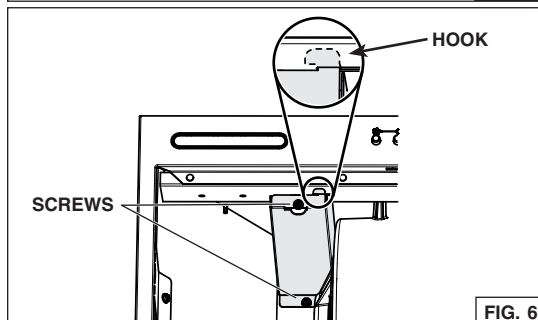

FIG. 6
3. Disassemble the electrical cover (grey part in Fig. 6) from inside the power module by removing both its retaining screws. Slide the cover toward the blower in order to disengage its hook (shown in dotted line in inset) from the power module wall. Set aside the cover along with its screws.